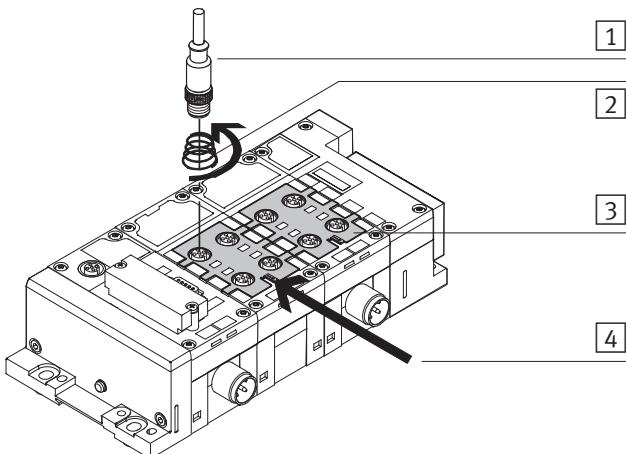

Fig. 1/4: Connecting the screening plates
- Connect the earth cable of the screening plate with low impedance to the functional earth connection (FE) as per Fig. 1/4.